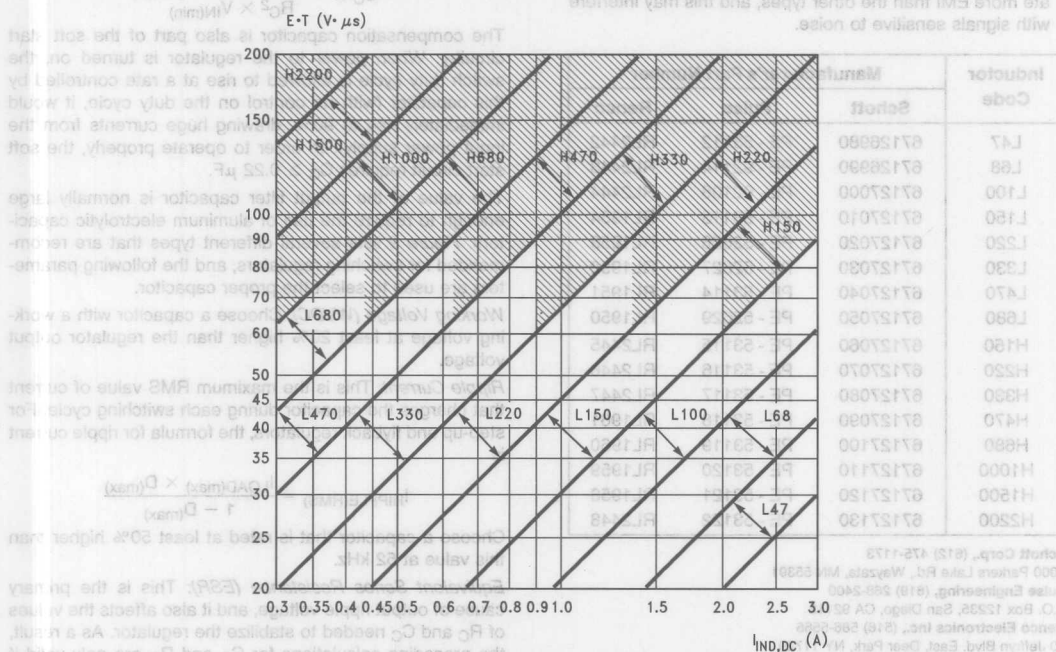

FIGURE 7c. LM1577-ADJ/LM2577-ADJ Inductor Selection Graph
1. From Figure 7c, identify the inductor code for the region indicated by the intersection of $E \cdot T$ and $I_{IND,DC}$. This code gives the inductor value in microhenries. The L or H prefix signifies whether the inductor is rated for a maximum $E \cdot T$ of 90 $V \cdot \mu s$ (L) or 250 $V \cdot \mu s$ (H).